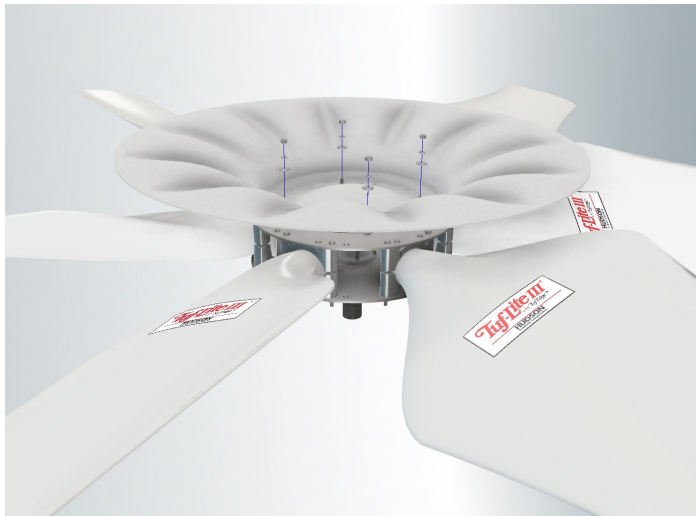
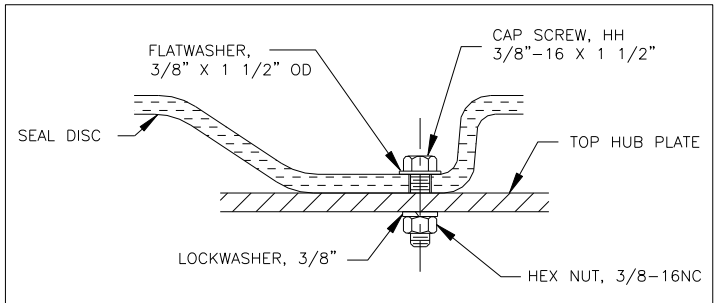
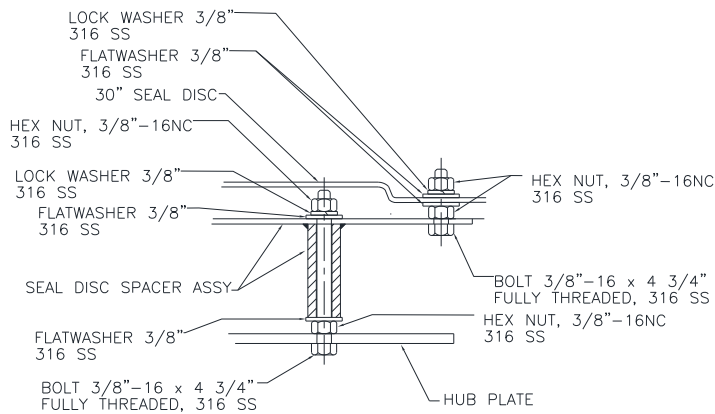
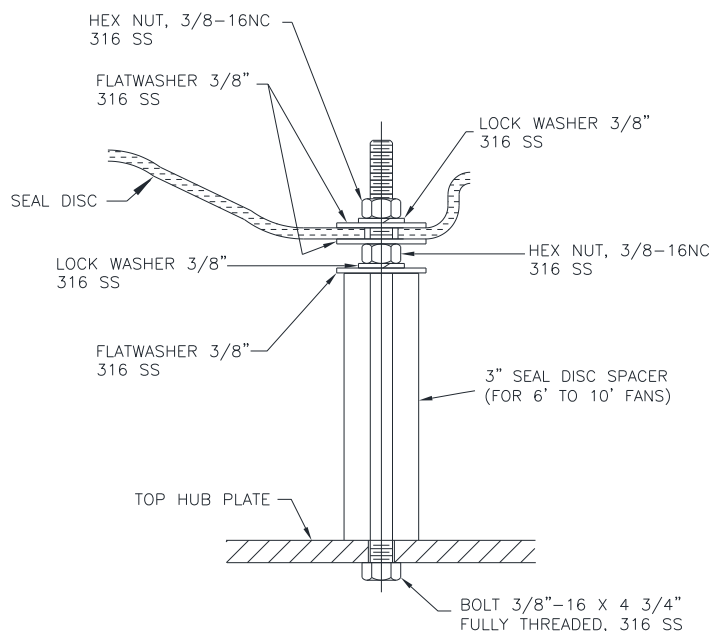

Figure 9
Figure 12: For 11' to 15" Dia. Fan Assemblies
Figure 10: For 5' Dia. Fan Assemblies
Figure 11: For 6' to 10' Dia. Fan Assemblies
Fasten seal disc to top of hub with four (4) $3/8"$ cap screws, as shown in Figures 9. See Figure 10 for 5' fans, Figure 11 for 6' to 10' fans, and Figure 12 for 11' to 12' fans. Tighten to recommended standard of 15 ft-lb (lubricated) or 20 ft-lb (dry).